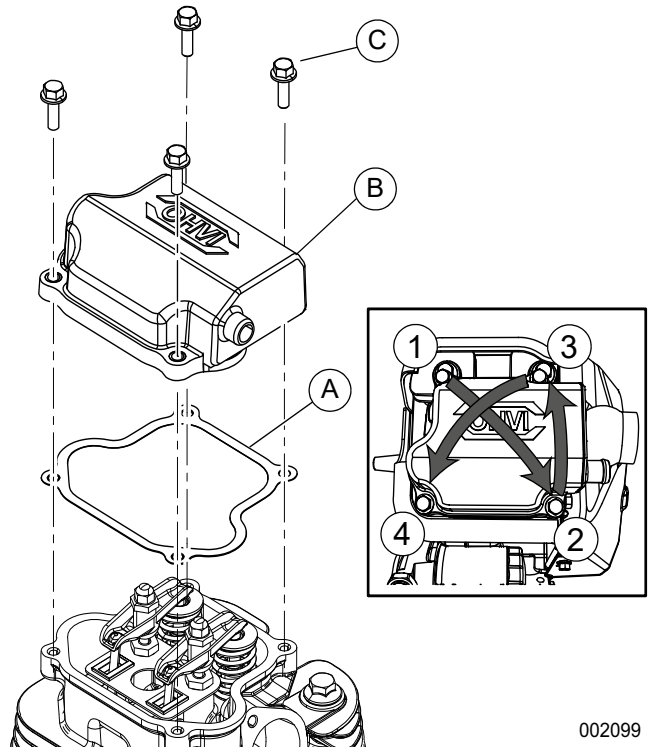

Figure 6-19. Install Rocker Arm Cover
1. See **Figure 6-19**. Using a new rocker arm cover gasket (A), install rocker arm cover (B), and retain with four screws (C).